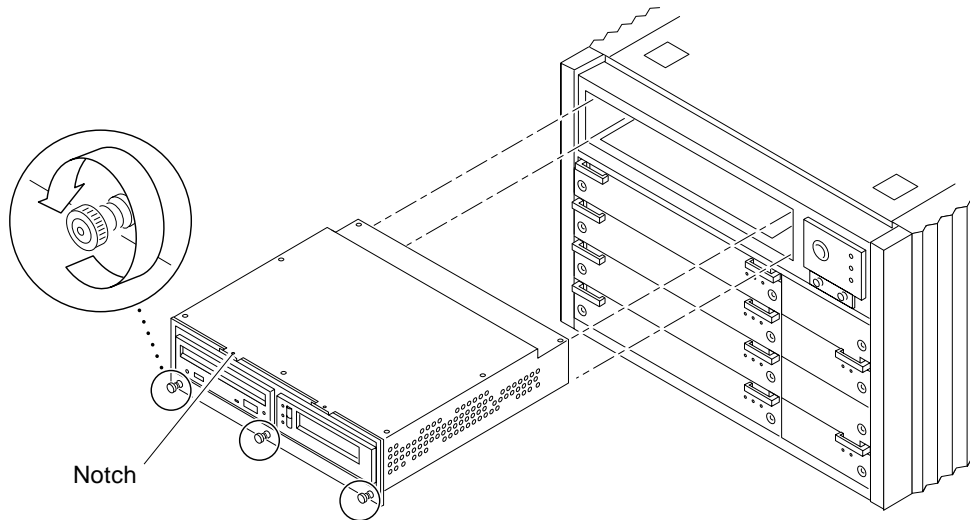

FIGURE 3 SCSI Tray
2. With wrist strap on, insert a screwdriver in the notch at the top of the SCSI tray to pull out the tray and separate it from the rear slip connector (FIGURE 3).
2. **Tighten the bottom three captive screws on the SCSI tray to secure the tray to the enclosure (FIGURE 3).**